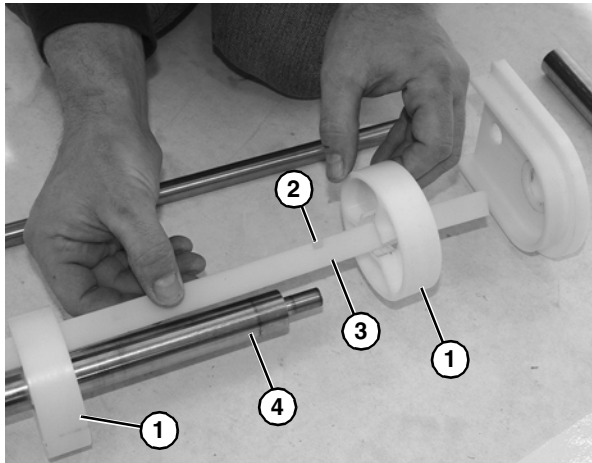

Figure 68
1. Place the pucks (Figure 68, item 1) into the slots (Figure 68, item 2) of alignment bar (Figure 68, item 3), and install onto the idler shaft (Figure 68, item 4).